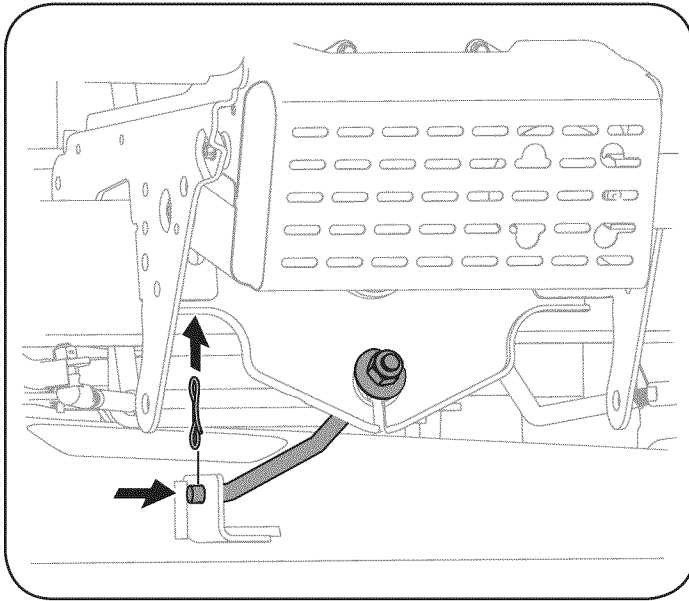

Figure 18
8. Remove the bow-tie cotter pin securing the deck stabilizer rod to the deck. Slide the deck lift rod from the mounting bracket on the deck as shown in Figure 18.